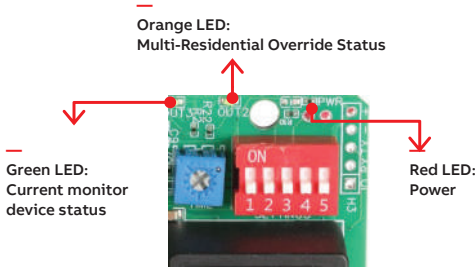

Figure 4\*
- 2- Ensure the red LED (PWR) is on, indicating power. (See Figure 4.)
- 3- Verify the green LED on the left-hand side (OUT1) corresponds to the state of the contactor (See Figure 4). If the green LED on the left-hand side flashes continuously, it indicates that there is no current being measured by one or both current monitors.